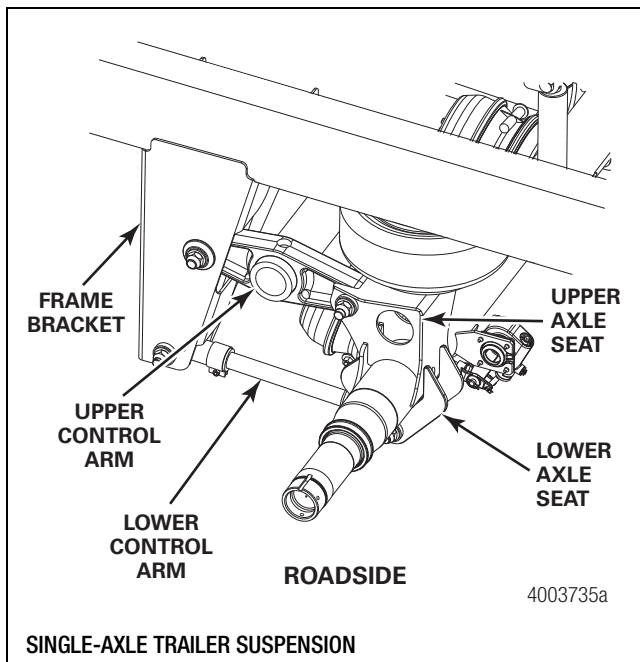
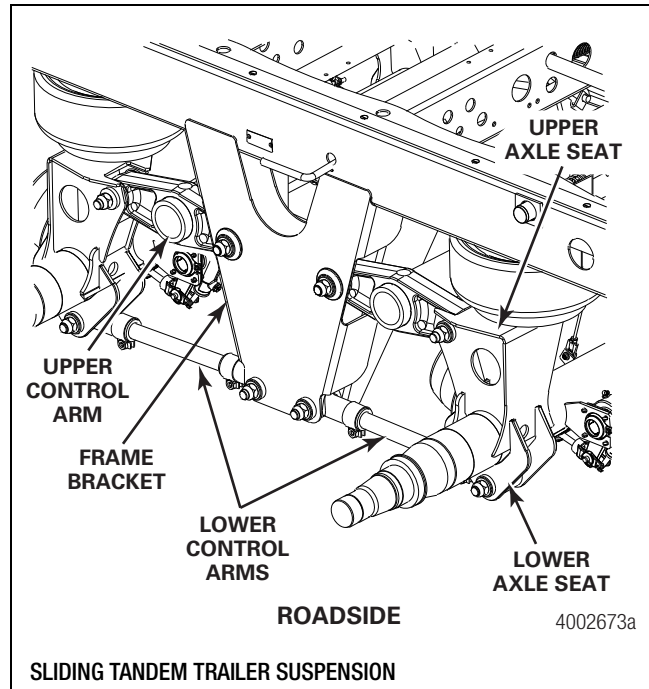

Figure 9.7
Figure 9.8
9. Inspect the structure of the suspension. Figure 9.7 and Figure 9.8. Inspect the following items.